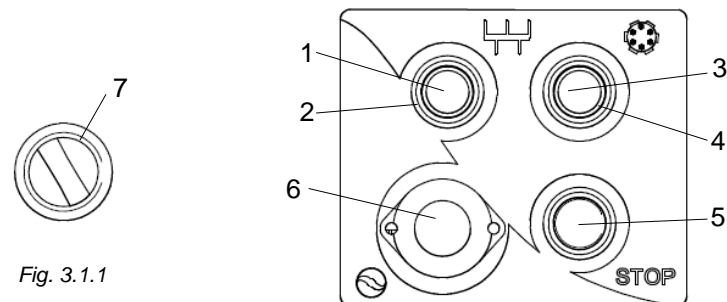

Fig. 3.1.1
Connect the plug to the mains and press the start button (3 Fig. 3.1.1). The machine gets enable in extruding mode; ensure the spiral direction of rotation is counter-clockwise.
### 5.3 - Checking the effectiveness of the emergency button (5 fig. 3.1.1)
When machine is connected to the mains and tools are in movement, press the shut down button (5 Fig. 3.1.1). The machine must shut down.
### 5.4 - Machine start up (1 or 3 fig. 3.1.1)
After having properly connected the machine to the mains, push the mixing button (1 Fig. 3.1.1) or push the extruding button (3 Fig. 3.1.1), to have the machine started up.
### 5.5 - Machine shut down (fig. 3.1.1)
TO shut down the machine, push the shut down button, "5" Fig. 3.1.1.
- Start the machine in mixer mode by means of the button "1" (Figure 3.1.1)
- Start the motor fan by means of the air vent switch "7" (Figure 3.1.1)
#### - Start mixer button (1 fig. 3.1.1)
When the button is pressed, the LED gets lit (2 fig. 3.1.1) and it will remain so throughout the mixing process.
#### - Start extruding button (3 fig. 3.1.1)
The pasta will start being extruded. When the button is pressed, the LED gets lit (4 fig. 3.1.1) and it will remain so throughout the extruding process.